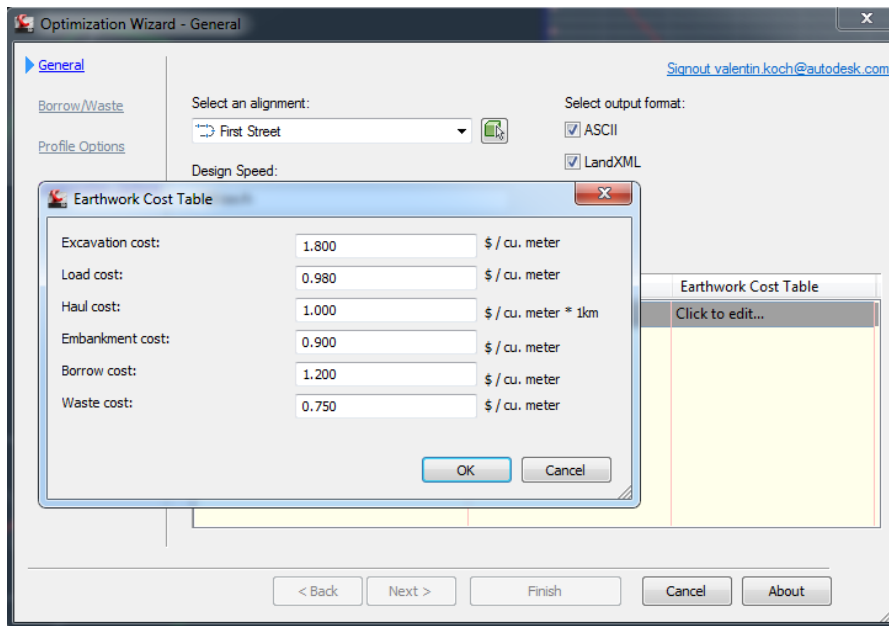

Figure 13: Earthwork table
8. Change the earthwork cost table (see Figure 13). The earthwork costs per surface are given in dollars per cubic unit (cubic feet for a design using imperial measures, cubic meters for metric measures). The cost table can be seen in Figure 13.